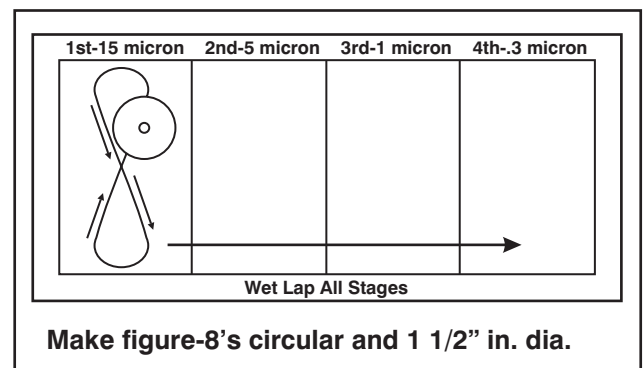

FIGURE 2 FIBER POLISHING
- 3.01 Insert connector ferrule into polishing puck and gently place onto 15 micron lapping film (see Figure 2).
- 3.03 Repeat polishing sequence using 5 micron, 1 micron and .3 micron lapping film remembering to clean off connector ferrule and puck (See Figure 2).